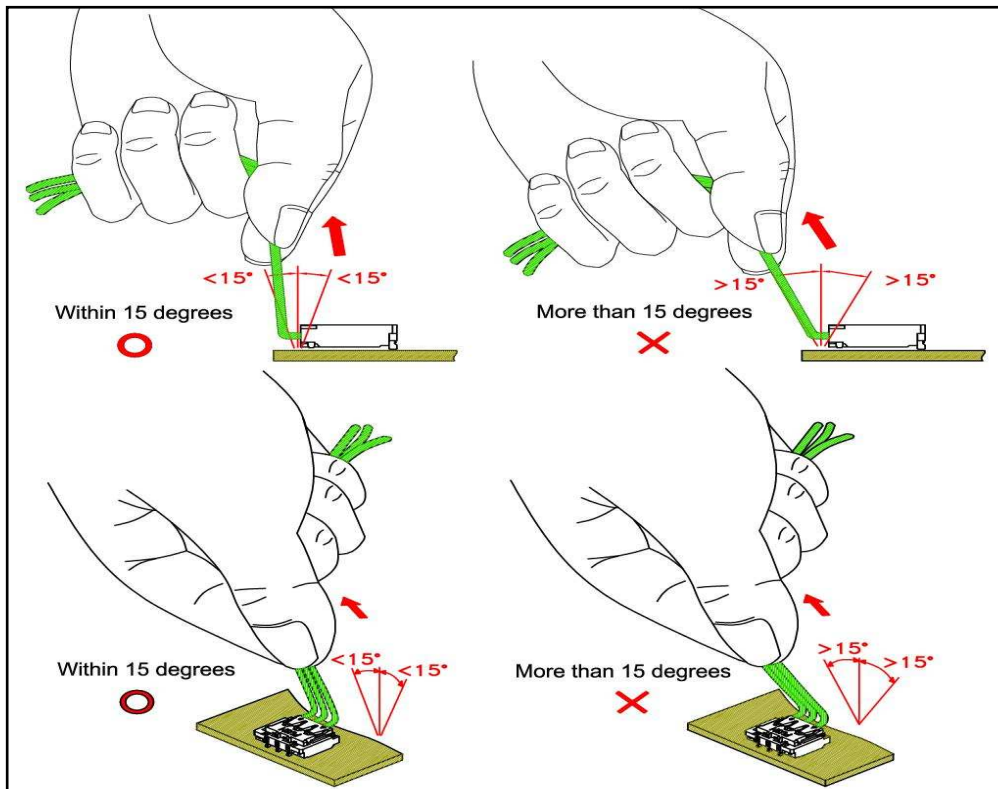

figure 4.2
4.2 Even in the case of unmating on mating axis, the same action as that of unmating in any angles may generate in condition that several tips of wires are held (wires aren't held in a bundle). In unmating the connector, be sure to hold the wires in a bundle within 15 degrees to the mating axis. (see figure 4.2)